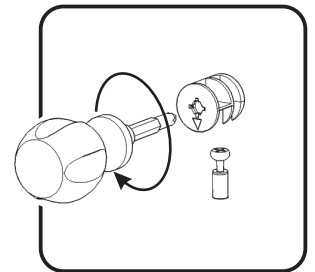

Figure 2
Attach Back Rail (G) to Side Panel (B) with Cam Lock. (See Figure 2)